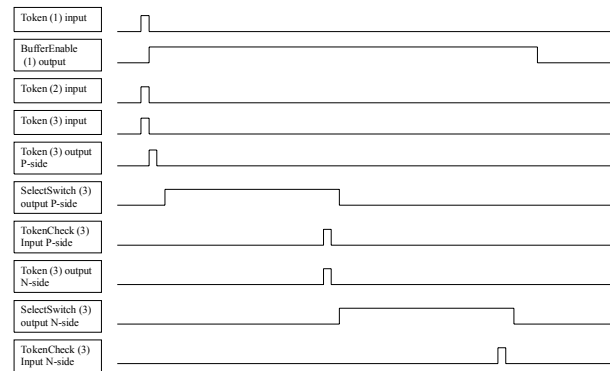
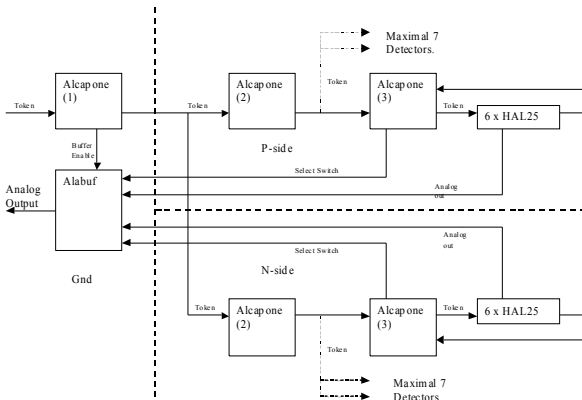

Figure 3 Timing diagram of the token readout
Figure 4 Token readout scheme.
The readout signals in the EndCap are visualized in Figure 3 and Figure 4. First, the signals are received in the ALCAPONE (1) at GND level. Then they are sent to each detector side and there again buffered by (2). Then the signals reach the ALCAPONE (3) that is connected to the hybrids with the HAL25 chips. In these chips, the delay must be generated, such that each detector side of a module is readout sequentially. This chip also controls the analogue multiplexer in the ALABUF chip (SelectSwitch). The corresponding analogue channel is activated during readout.